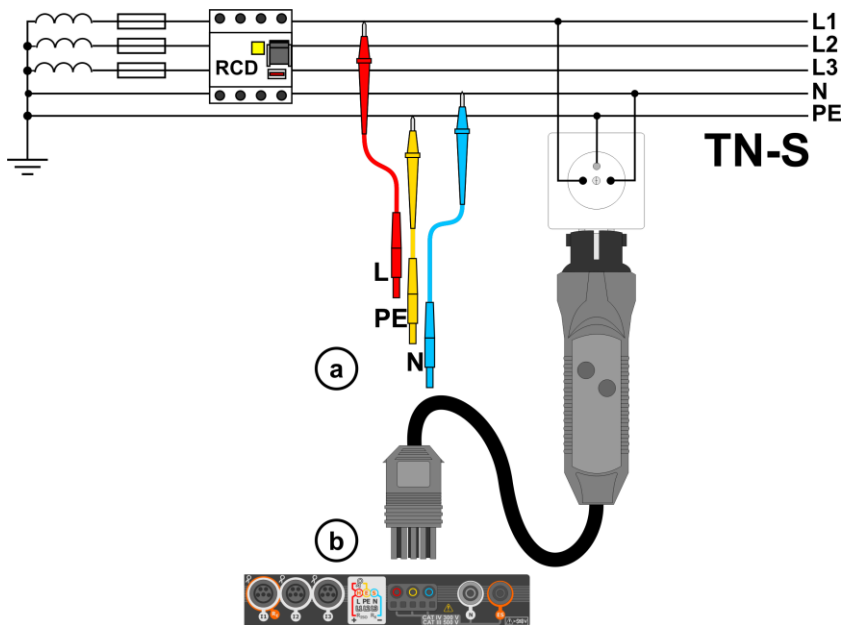
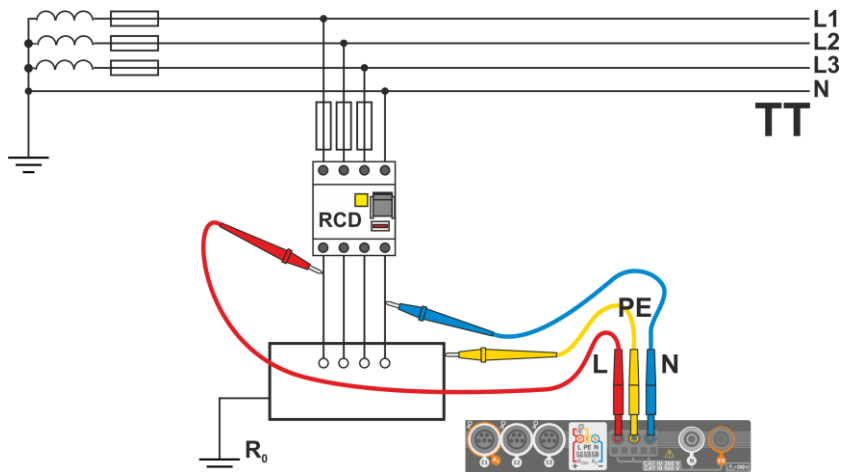

Fig. 3.3 Measurement in the TN-S system
Fig. 3.4 Measurement in the TT system
- 1 Connect test leads according to Fig. 3.3 , Fig. 3.4 or Fig. 3.5.